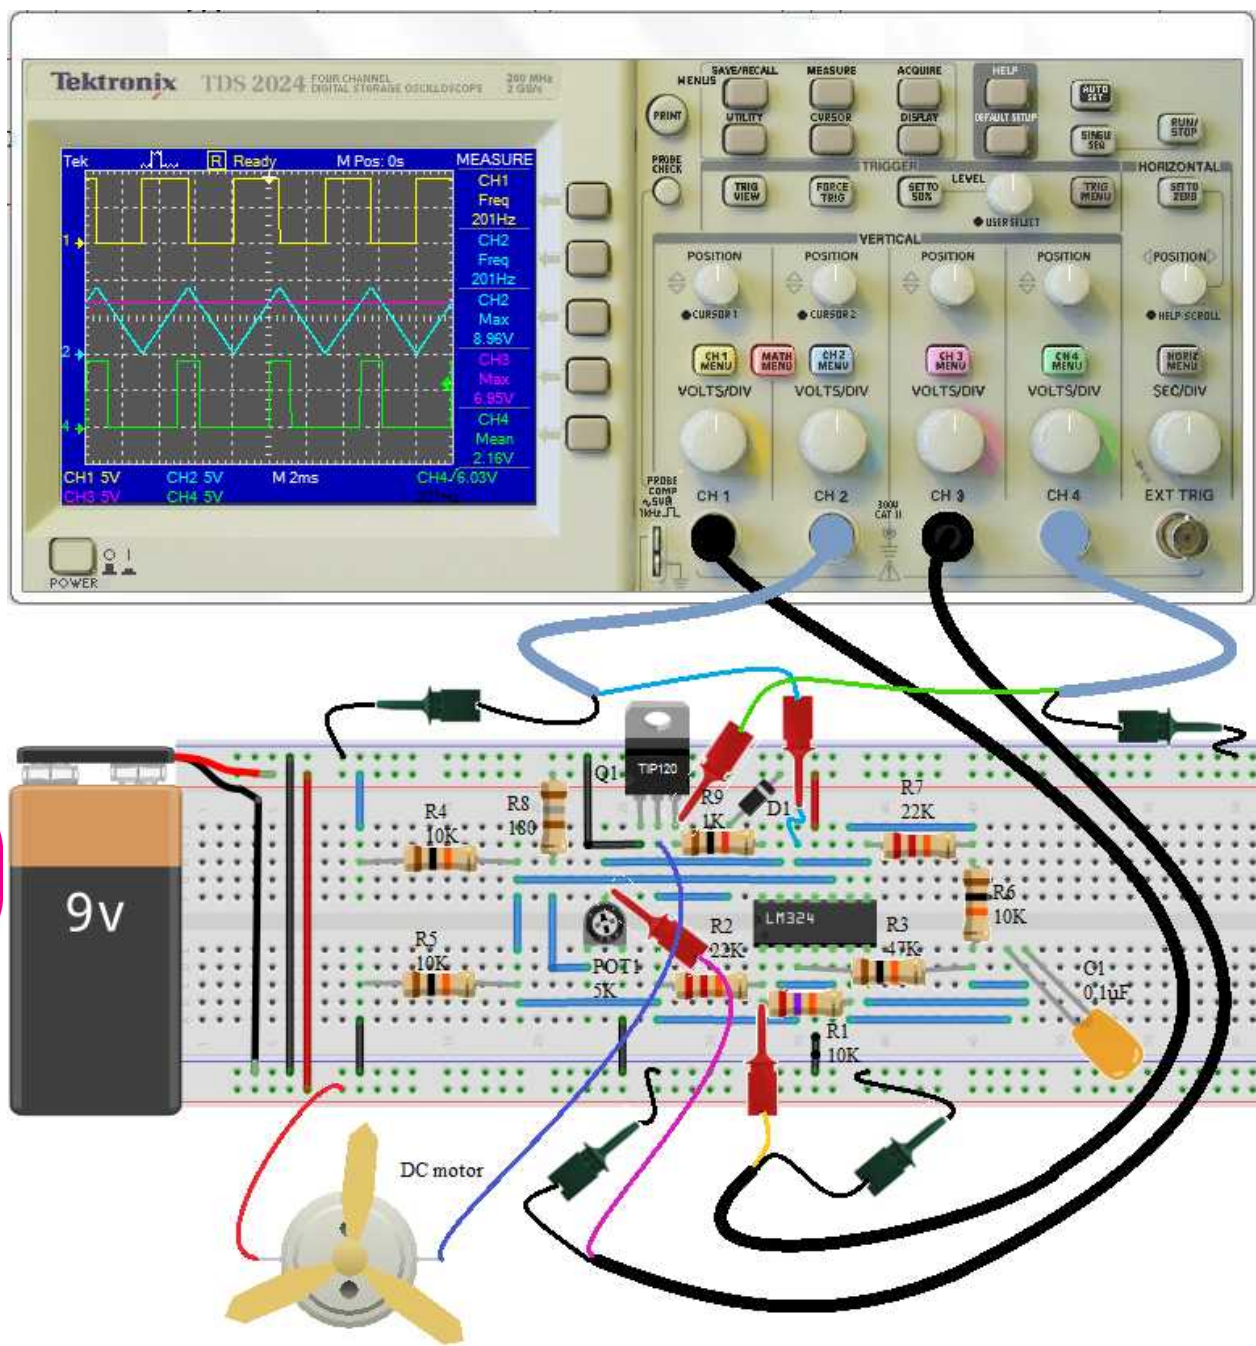

Figure 7-86: PWM DC motor speed control circuit connection
1. Assemble the circuit on a breadboard as illustrated in figure 7-86. The circuit requires 9VDC to 15VDC power supply for its working with a margin limit of the DC voltage. Remember to locate the pin 1 of the LM324 IC. The circuit has advantage to control the motor from full-off to full-on.